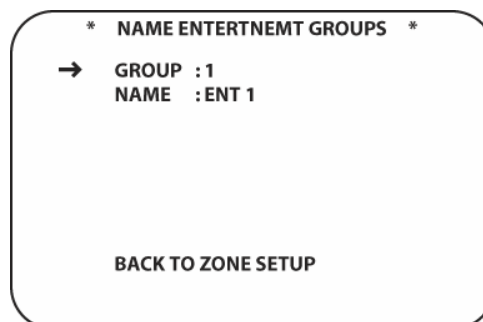

Figure 104 Name Entertainment Groups Screen
1. From **ZONE SETUP PAGE 1**, with the cursor next to **NAME ENTERTAINMENT GROUPS**, press the **Set Button [oval 18]**. The **NAME ENTERTAINMENT GROUPS** screen will appear. (**Figure 104**)